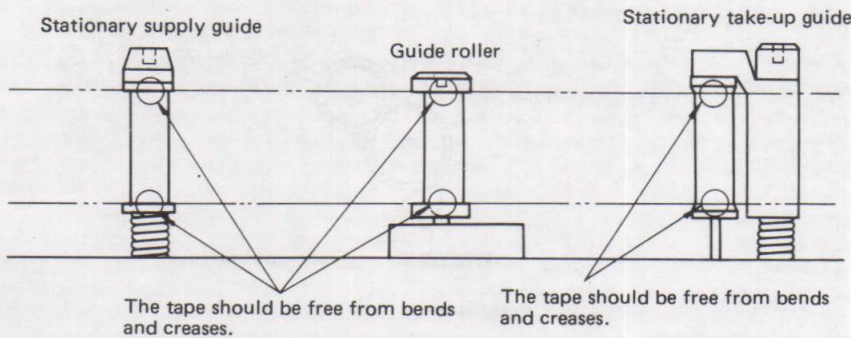

Figure 33
2. After the height adjustments are completed, be sure to perform tape run adjustments and guide roller adjustment (both the supply and take-up) before checking the height as shown in Fig. 33.
Check to see that, when the video tape runs, the tape is completely free from bending or creasing as shown in Fig. 33.